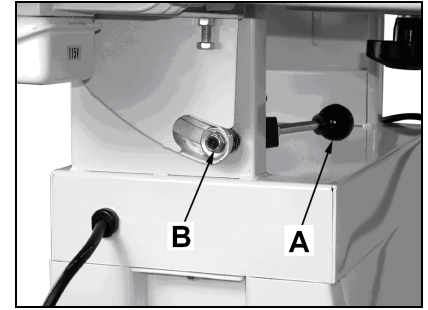

Fig 13
The clamping function of the tilting lock (A, Fig. 13) is adjustable. Tension eccentric block by tightening the nylon stop nut (B)